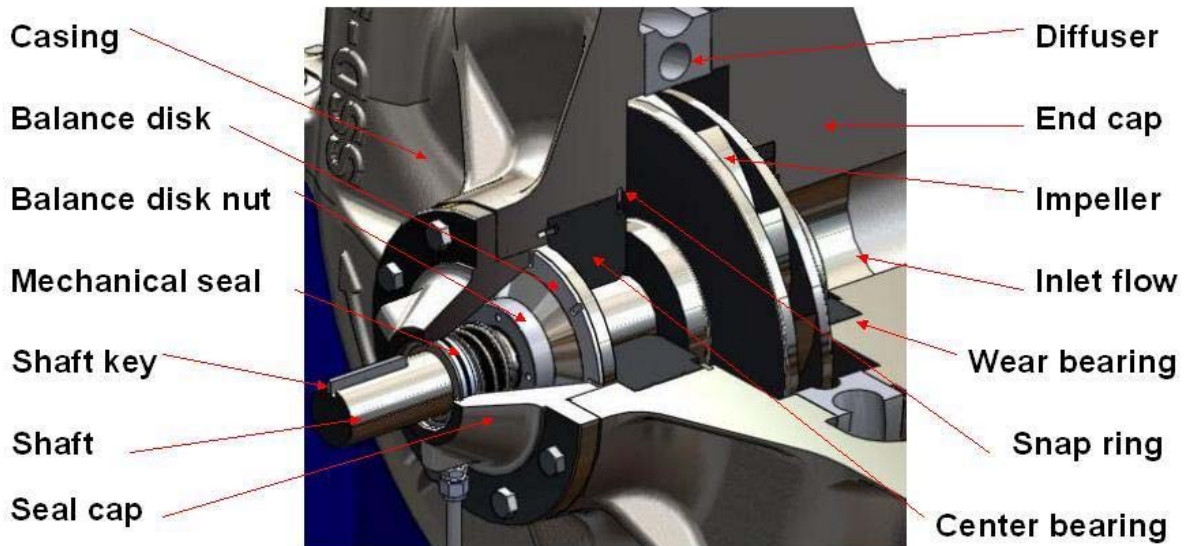

Figure 4 A cutout view of the SSD-500 pump's internal assembly (temporary).
1. Remove the bearing drain line (for the seal cap removal, please refer to Figure 4).
2. Remove eight (8) seal cap bolts.
7. Loosen the balance disk nut (Figure 4), with the second 4-pin wrench, turning it in the direction of the pump shaft rotation during operation. The direction of the pump shaft rotation is indicated by an arrow on the pump casing.